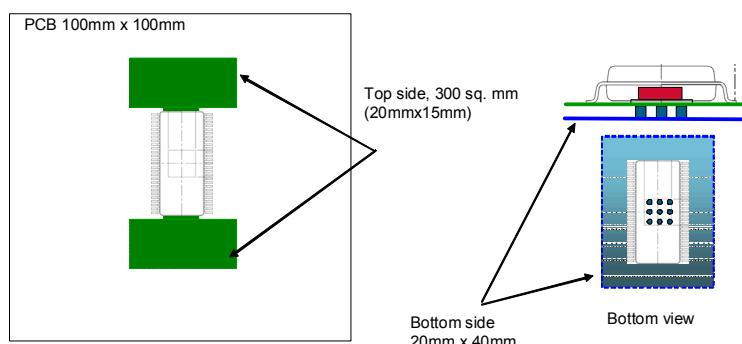

Figure 15. PCB with Top and Bottom Layer Dissipation Area (Dual Layer)
8. This parameter was measured according to Figure 15: